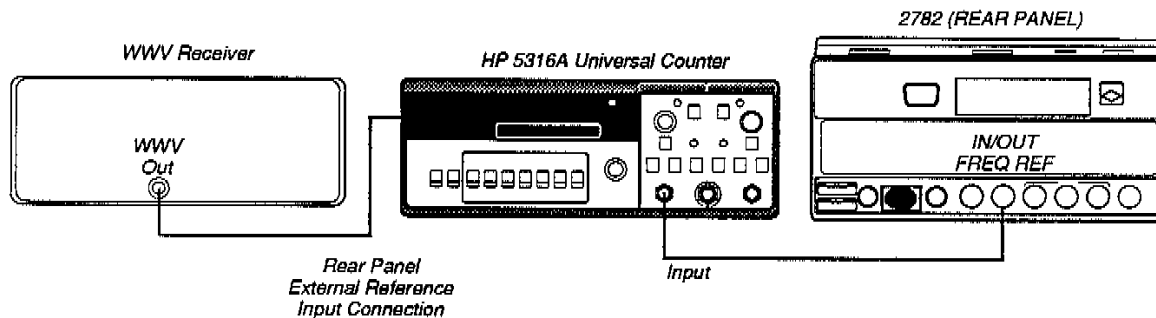

Figure 2-19. Test Equipment Connections for Frequency Reference Accuracy Check.
- b. Connect a 50 Ω cable from the IN/OUT FREQ REF connector to the signal input to the counter (as shown in Figure 2-19). Then, connect a cable from